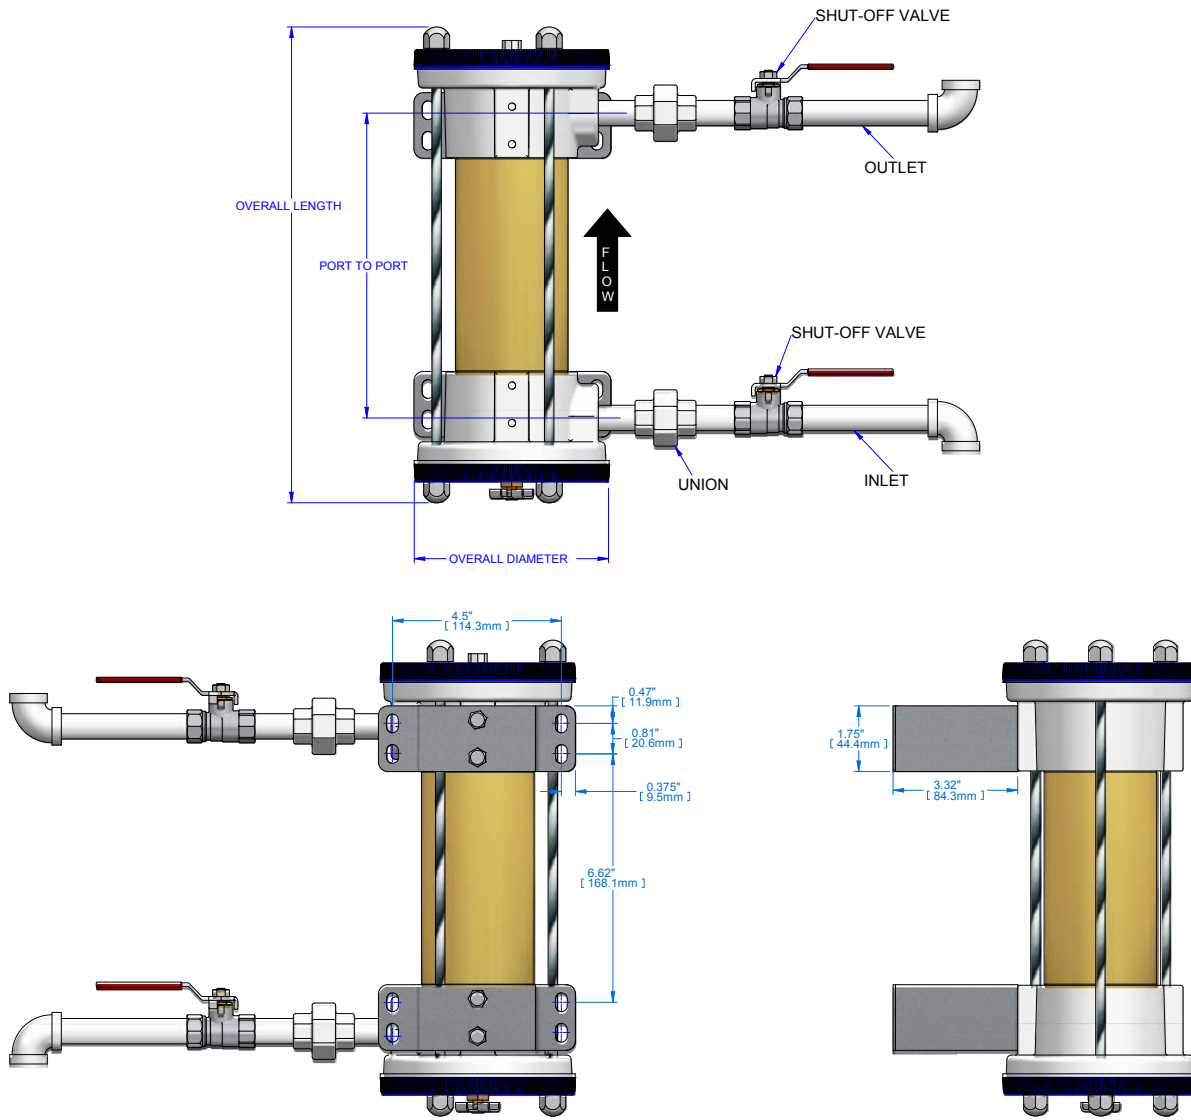

FIGURE 1 - G-25, M-25 & M25V ASSEMBLY DIAGRAM
- 3.1 For maximum efficiency, FLO-DRI unit should be installed as indicated in Figure 1.